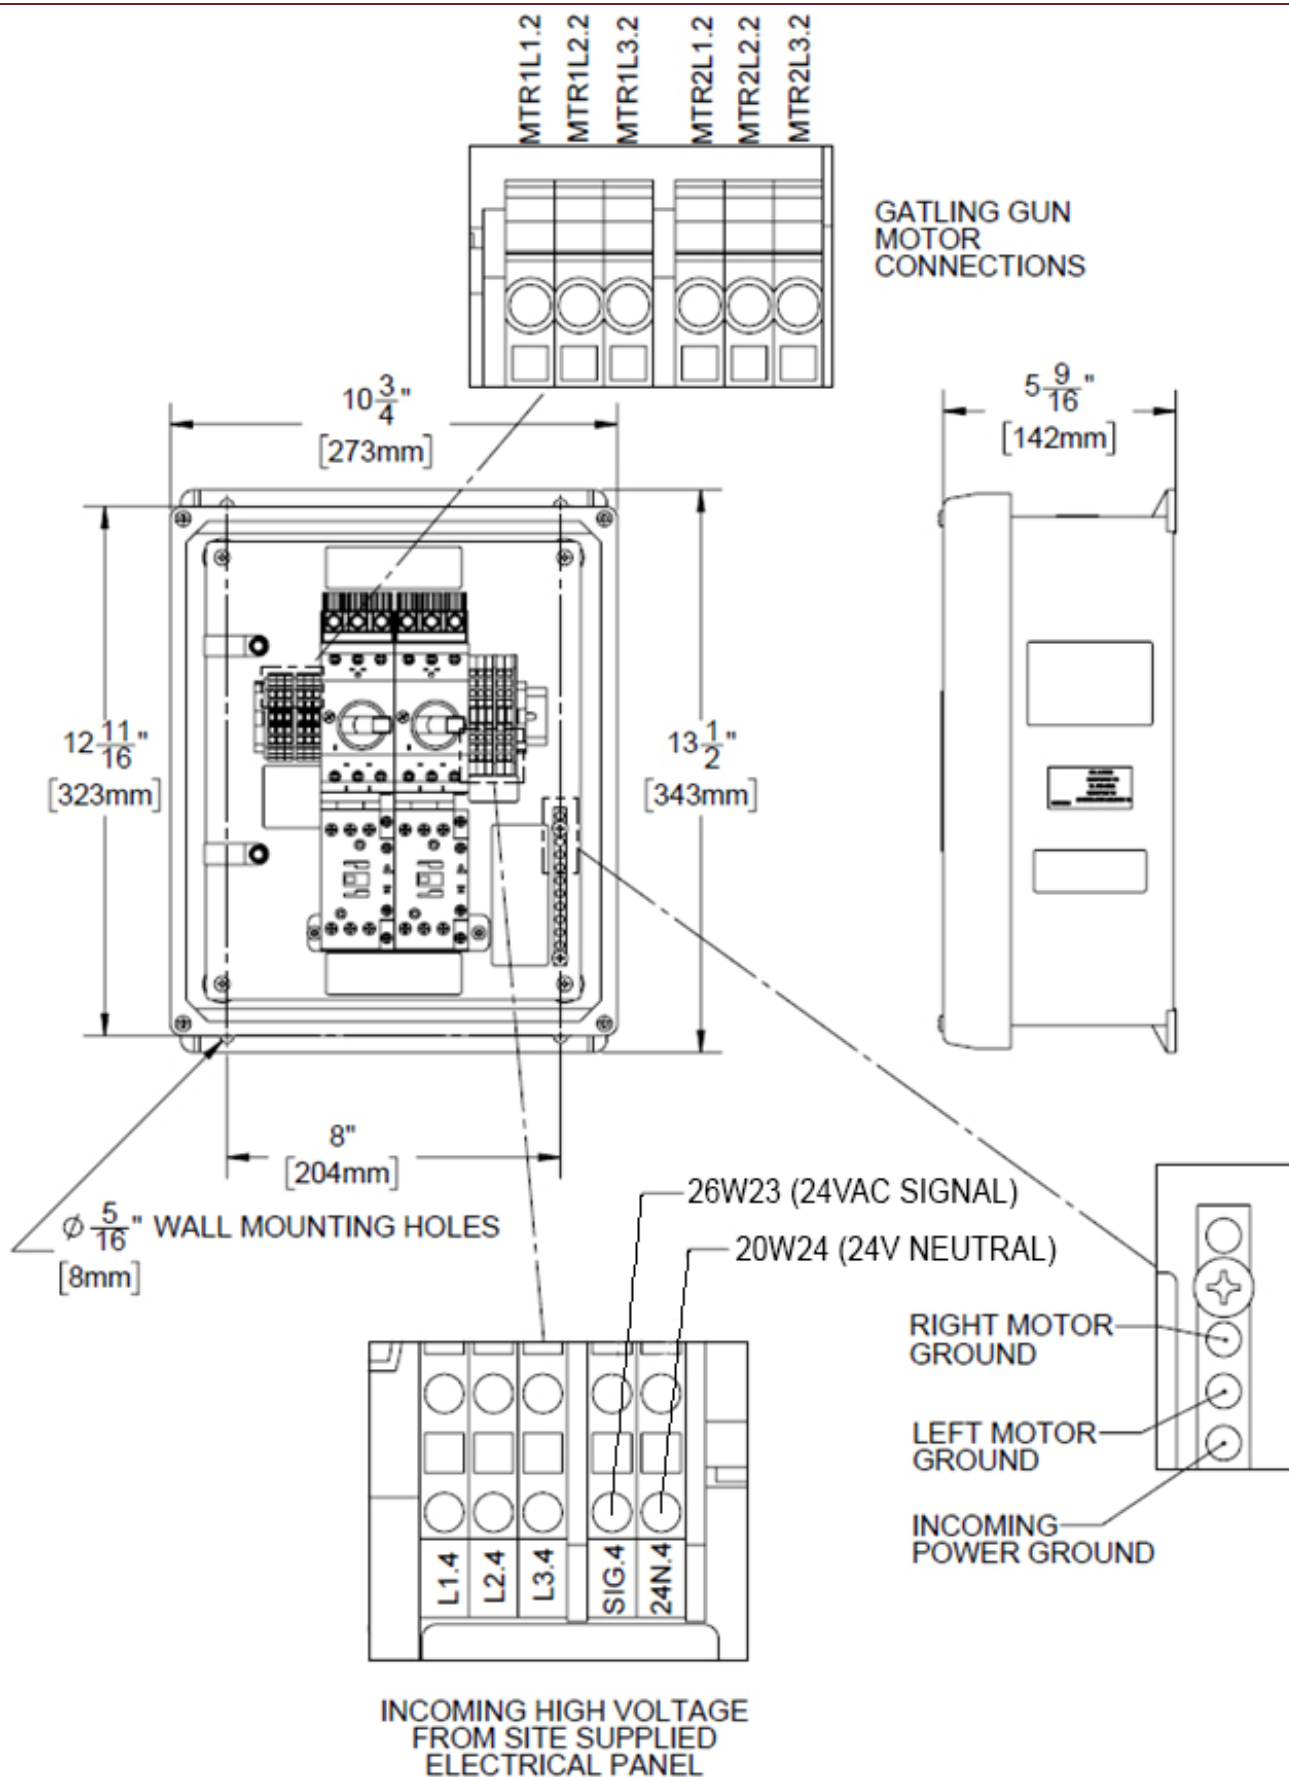

Figure 124 - Gatling Gun Control Box
- Wire power and the control wires to the control box as shown in Figure 124. Do not drill holes in the top of the electrical enclosure.